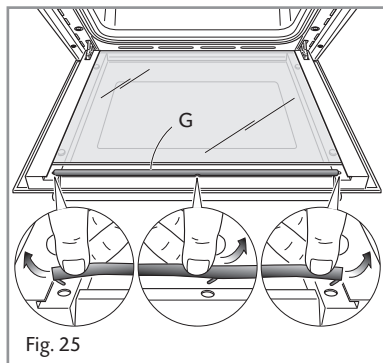

Fig. 25
- **Top oven door only:** Remove the seal **G** by unhooking the no. 3 fixing hooks (fig. 25).